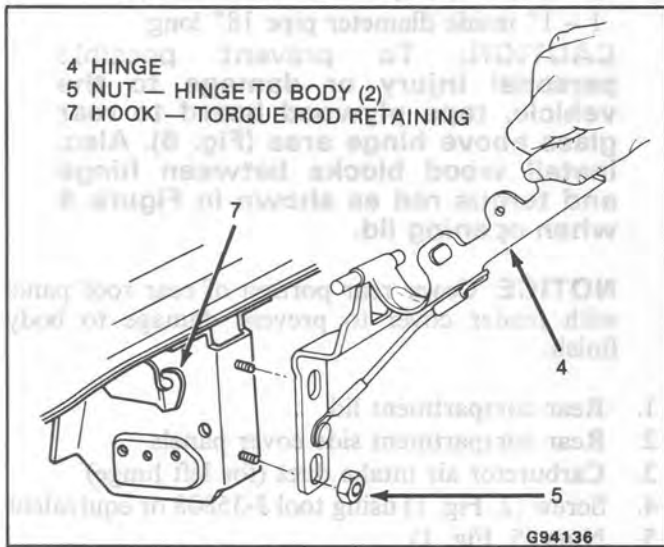
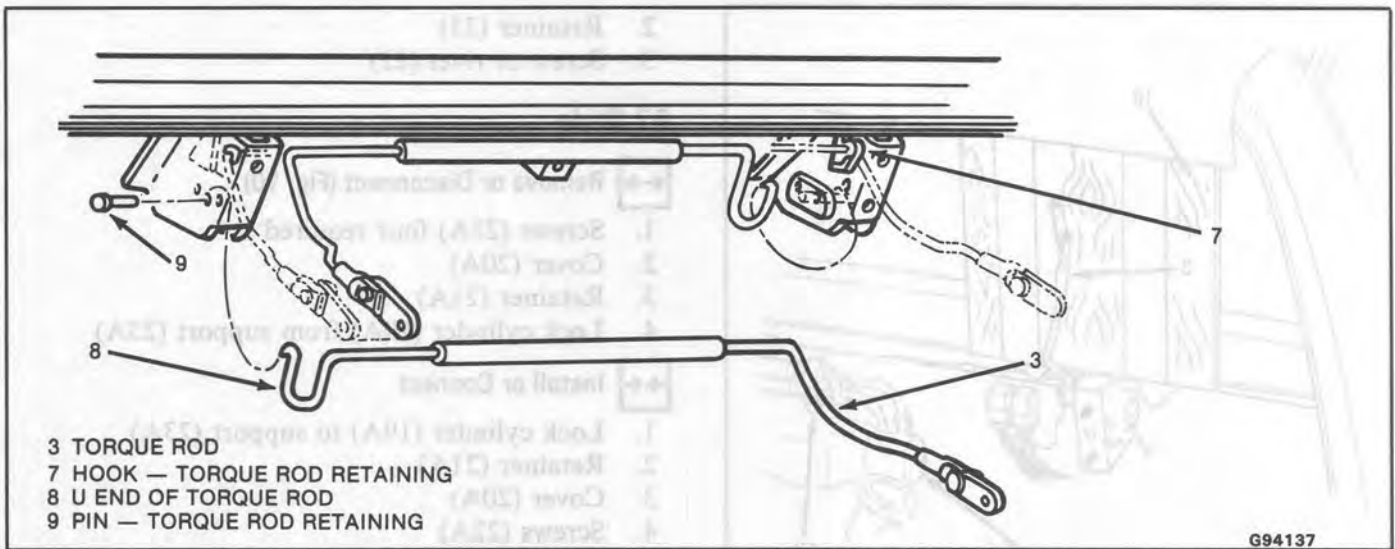

Fig. 2-Rear Compartment Lid Hinge
Fig. 3-Rear Compartment Lid Torque Rod
#### ↔ Remove or Disconnect (Figure 2)
#### ↔ Install or Connect (Figure 2)
**↔ Remove or Disconnect (Figures 3, and 6)**
1. Hinge (4, Fig. 2)
2. Screw (13)
3. Pin (9) – with end of torque rod resting against plywood, grasp U end of rod (8) and pull rearward to release pin.
4. Rod (3) from hook (7)
5. Rod (3)
**↔ Install or Connect (Figures 3 and 6)**
1. Rod (3)
2. Rod (3) in hook (7)
3. Pin (9)
- With torque rod resting against plywood, grasp U end of rod (8) and pull rearward to insert pin.
- Release U end (8) of rod and be sure that end of rod hooks over pin.
4. Screw (13)
5. Hinge (4, Fig. 2)